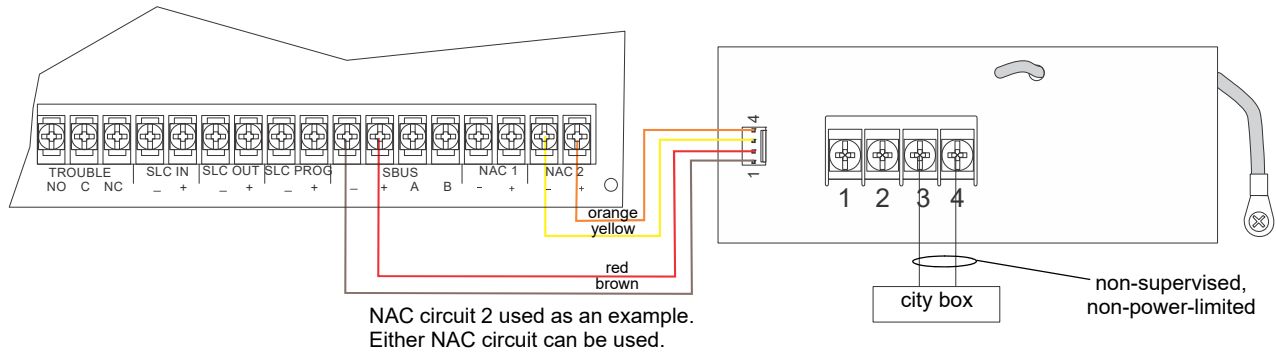

Figure 4.45 City Box Connection
2. Wire the 5220 to the control panel as shown in Figure 4.45. This drawing also shows how to connect the city box coil to terminals 3 and 4 on the 5220. Do not install an EOL resistor in the terminals of the NAC circuit used for this application.